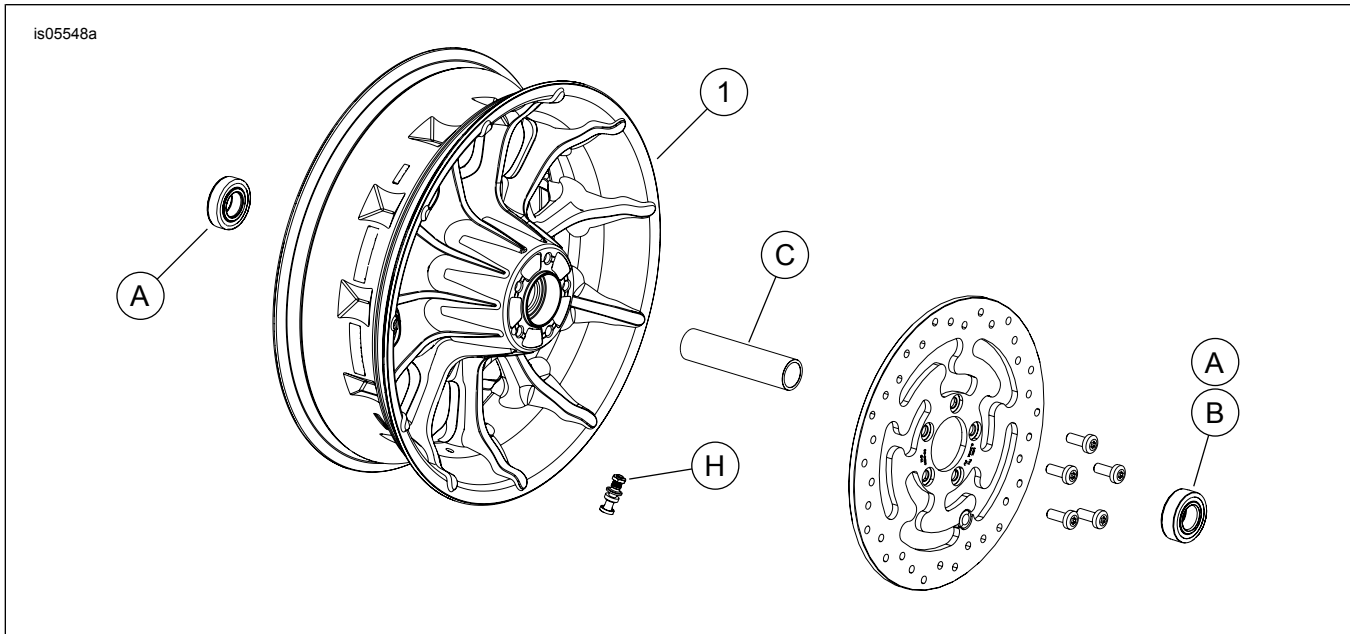

Figure 1. Service Parts: Roulette Rear Wheels
See Figure 1 and Service Parts Tables.
2. See Figure 1. Install valve stem assembly (H) on wheel. Refer to the service manual.